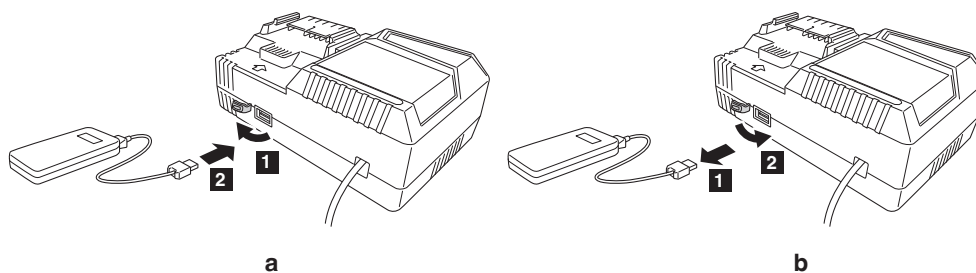

Fig. 15
(2) How to recharge USB device (Fig. 15-a)
(3) When charging of USB device is completed (Fig. 15-b)